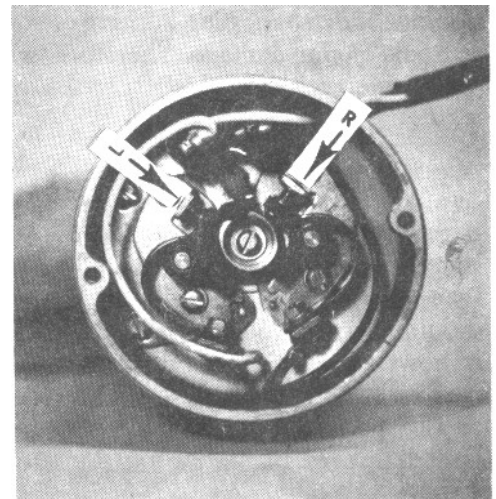

Fig. 114
- NOTE: As you face the open end of the generator, the points and condenser set on your right, control the firing of the right cylinder. (See Figure 114.)
2. Loosen generator mounting clamp nut ("A", fig. 114)
3. Slightly loosen generator positioning screw ("B", fig. 114).